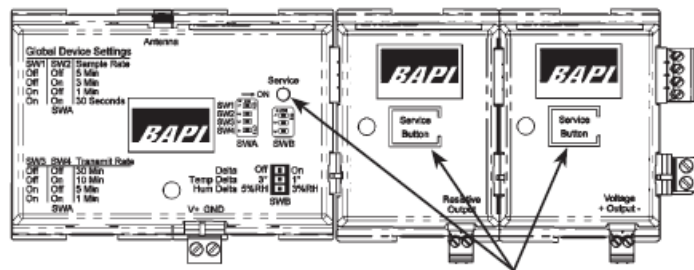
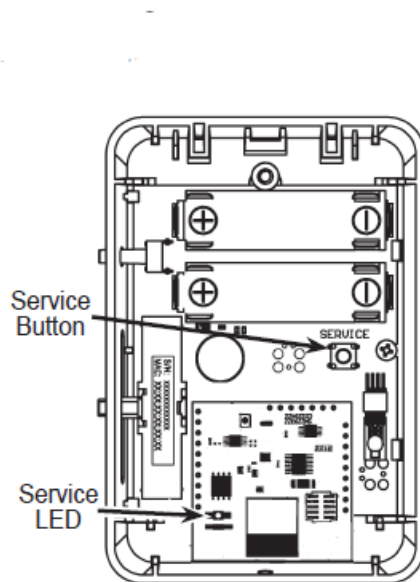

Fig. 1: Receiver and Output Modules **Service Buttons**
Fig. 2: BAPI-Stat "Quantum" Sensor Service Button and LED
3. Press and hold the “Service Button” on the top of the receiver until the blue LED starts to flash, Fig. 1: Receiver and Output Modules Service Buttons then press and release the “Service Button” on the sensor (Figs 2 & 3) that you want to pair to the receiver. When the LED on the receiver returns to a solid “On” and the green “Service LED” on the sensor circuit board blinks rapidly three times, the pairing is complete. Repeat this process for all sensors.
1. Select the output module for the desired sensor variable and range and connect it to the wireless receiver (Fig 1).